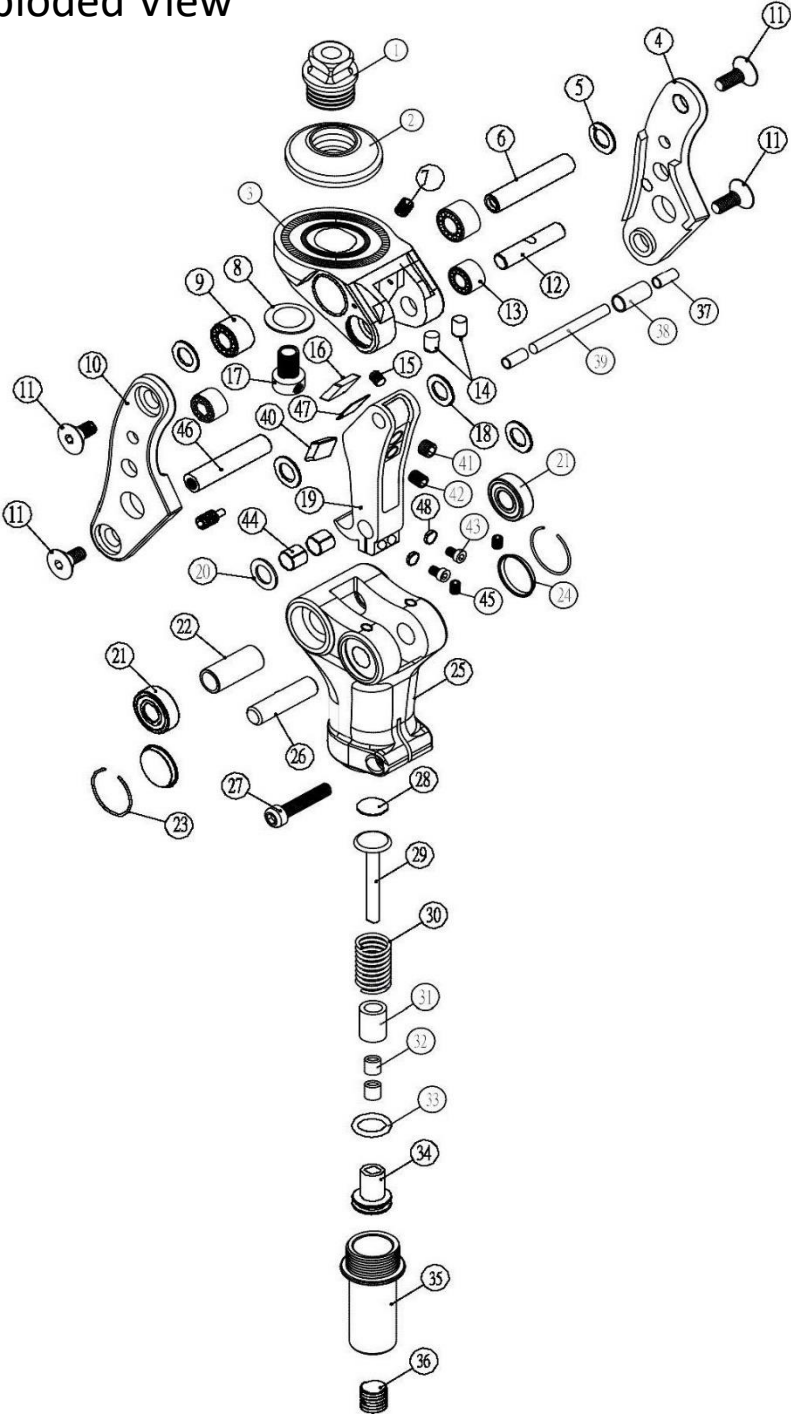
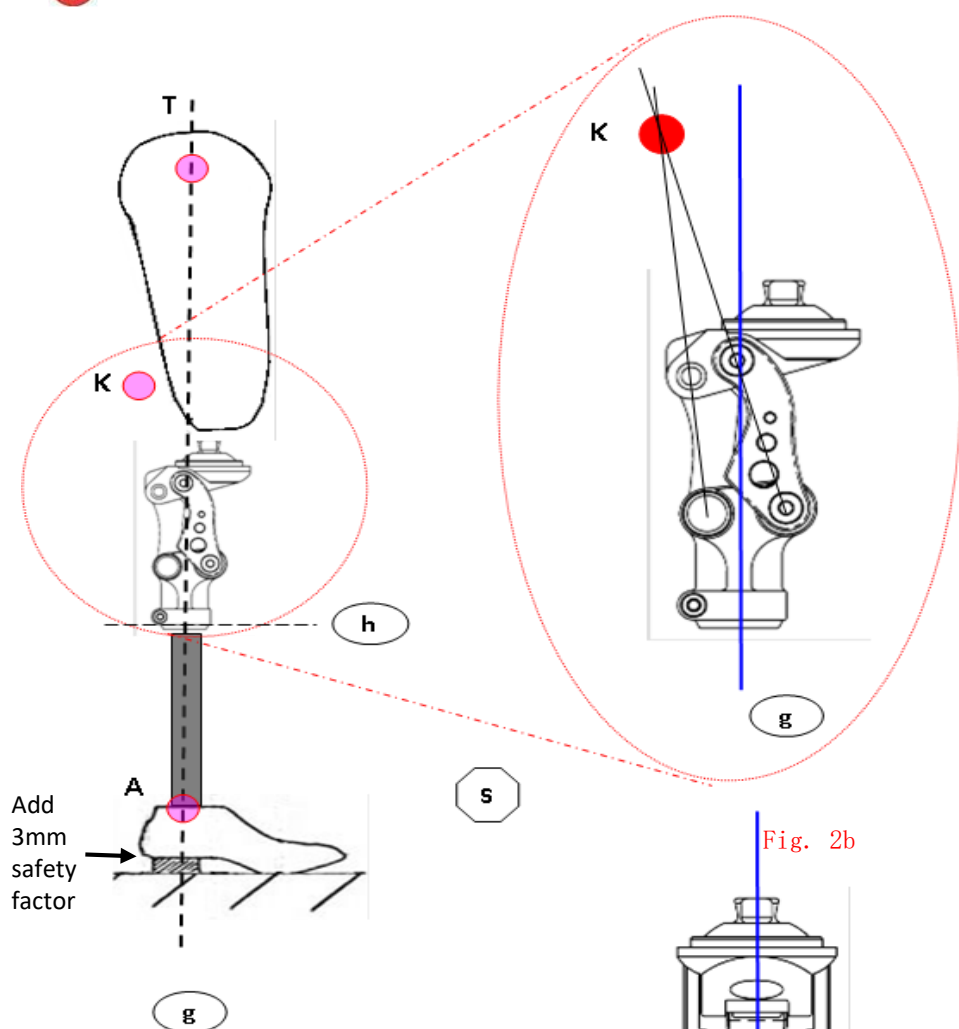

Fig. 2
Fig. 2a
Note: 4-bar knees inherently are very stable due to the geometry built into each design. This is commonly referred to as the Instant Knee Center (IKC). The IKC point when doing bench alignment, will fall behind the traditional TKA line that we will reference. (Fig. 2,3) Tg line in Fig. 3 is ideal placement, but in certain instances, it may be necessary to accommodate placement anteriorly (up to 3mm). The Tg line is referencing a moving A/P weight bearing line, so it could be slightly anterior or neutral.
a) With prosthesis assembled, taking into account hip flexion contractures, abduction, Line Of Progression, and toe out (Fig.2), the TKA plumb line should pass through the knee center (center of proximal/anterior pivot Fig.2a, 2b) and in front of the K point (IKC).
d) With prosthesis donned, the weight line for Sagittal or A/P plane should have the plumb line passing ideally through the knee center (proximal anterior pivot), and be perpendicular to the ground. (Fig. 2a, 2b)